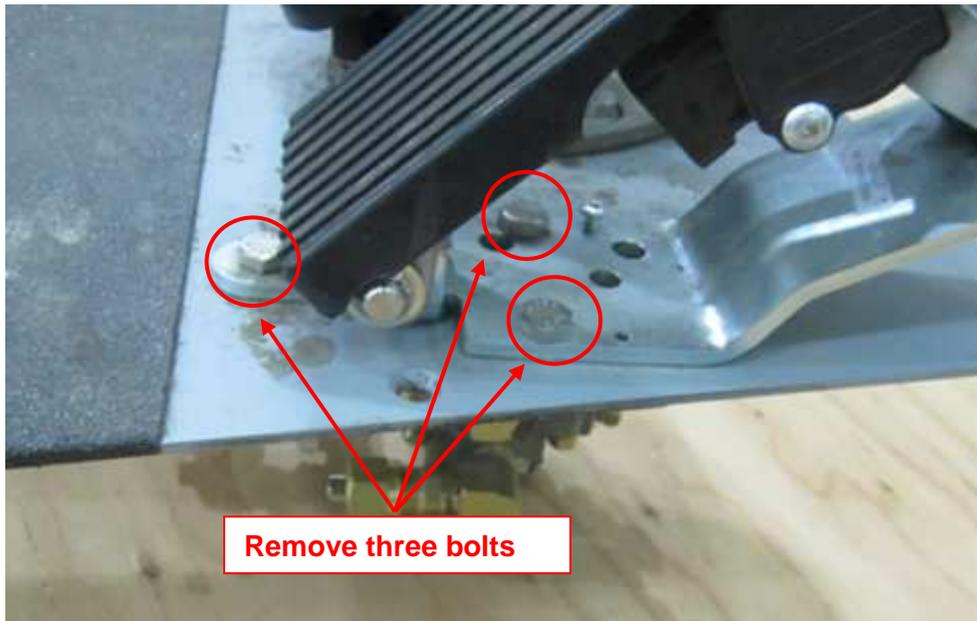

Figure 4: Remove Accelerator Treadle Assembly
12. Remove 3 bolts attaching the accelerator treadle to the plate. Discard locknuts and retain all remaining hardware for reuse, see Figure 4.